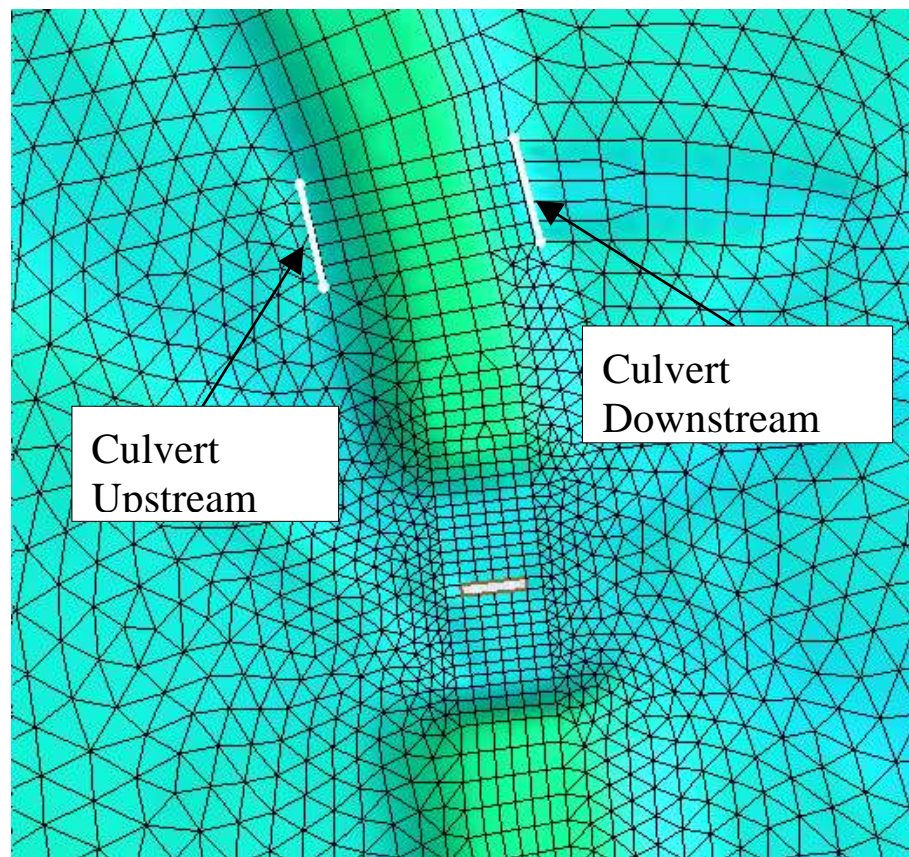

Figure 3 Upstream and Downstream BC Culvert Arcs
7. Review the notes below and then use the **Create Feature Arc**  tool to create two arcs, one on each side of the road. These arcs will define the upstream and downstream faces of the culvert structure. The created arcs should be placed in the locations shown in Figure 3.